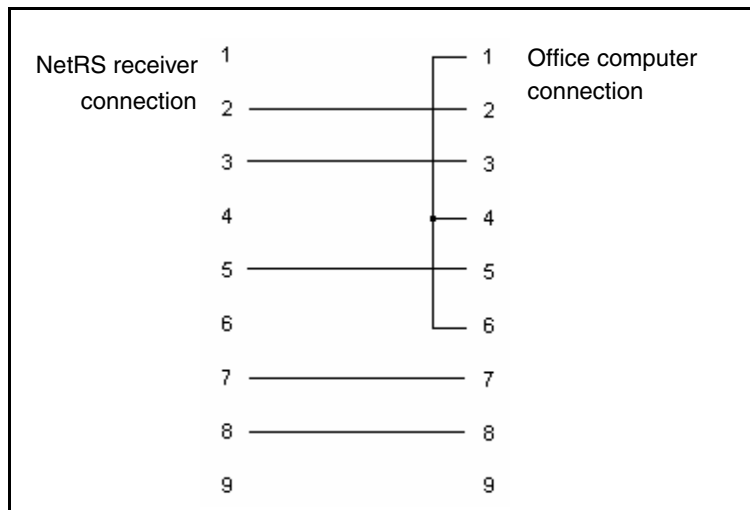

Figure 8.2 DCE adapter wiring
- To connect through ports 1 and 3, use a DCE adapter to assert the CD signal. Make sure that the adapter is wired as shown in Figure 8.2.